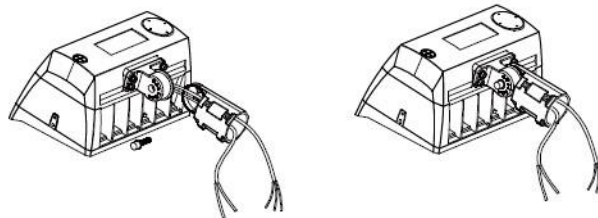

Figure 2
- Step 2. Install the mount on the fixture (Figure 2).